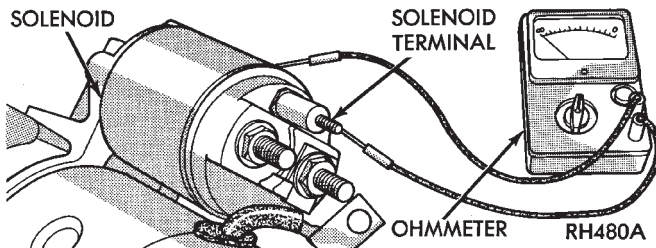

Fig. 8 Continuity Test Between Solenoid Terminal and Solenoid Case
(3) Check for continuity between solenoid terminal and solenoid housing. There should be continuity (Fig. 8).